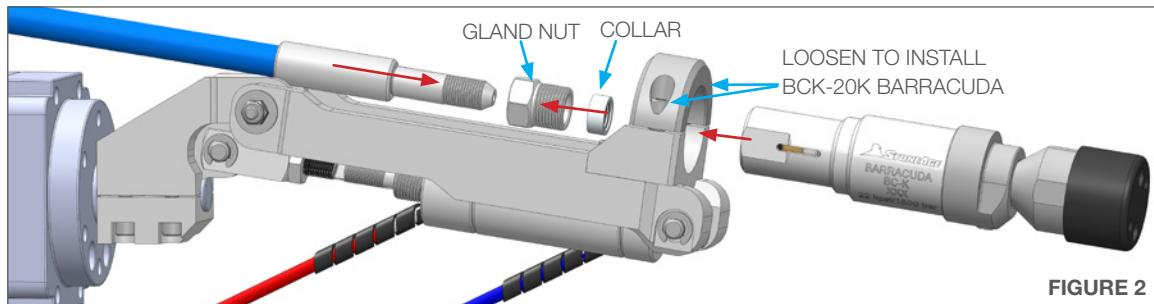

FIGURE 2
2. Fasten High Pressure Hose to BCK-20K Barracuda (**Figure 2**). The hose end is a 9/16" medium pressure connection, with a modified gland nut and standard collar.